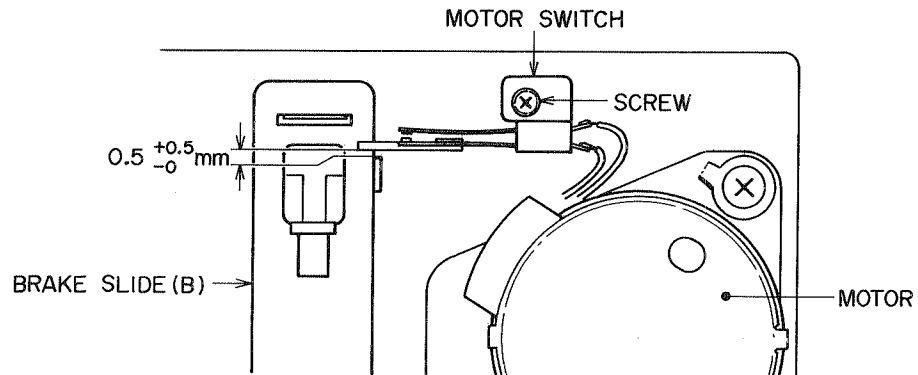

Fig. 6 Motor Switch Adjustment
5. MOTOR SWITCH ADJUSTMENT (Refer to Fig. 6)